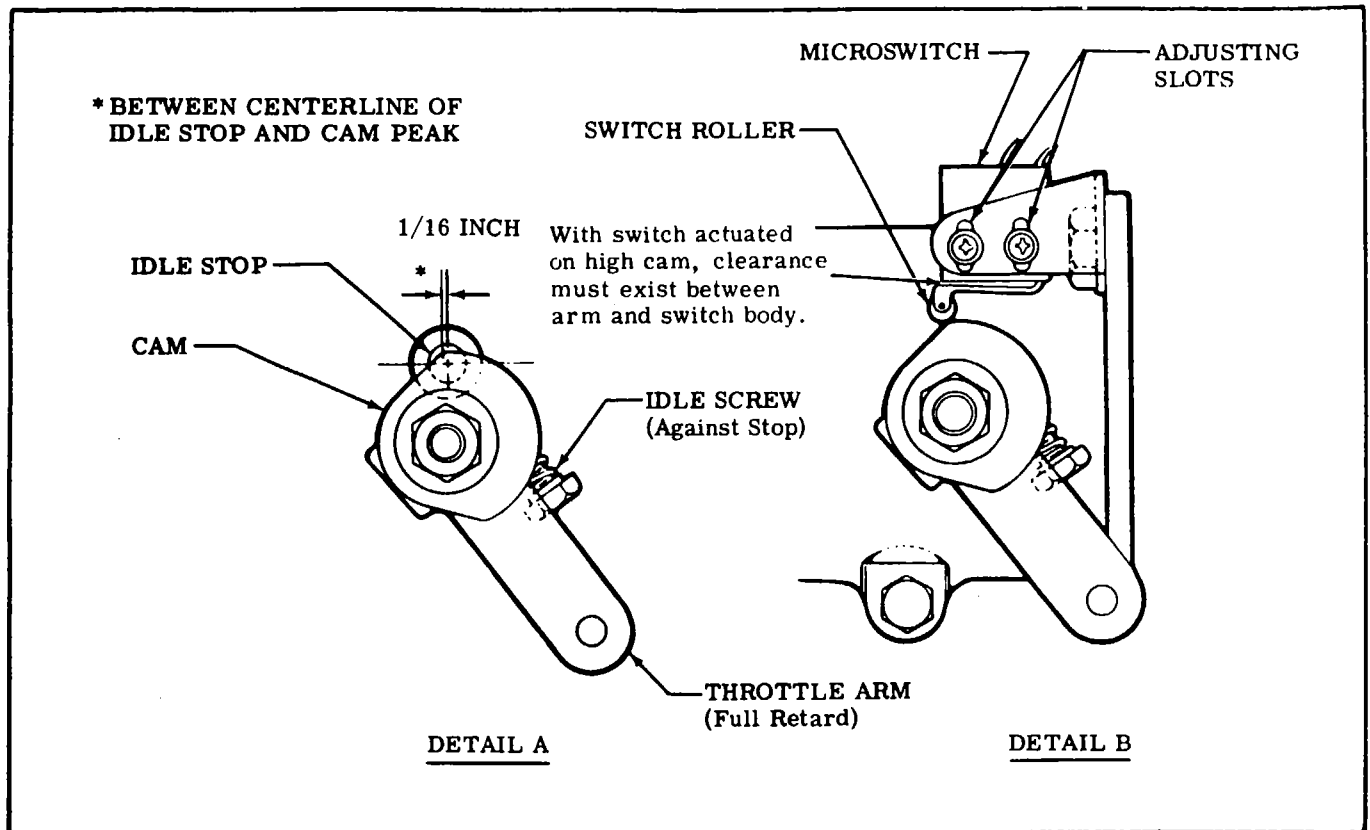

Figure 12-8. Rigging Throttle Operated Microswitch
12-31. RIGGING THROTTLE OPERATED MICROSWITCH. (See figure 12-8.) The aircraft electric auxiliary fuel pump circuit is equipped with a microswitch which operates on a cam attached to the throttle arm of the fuel-air control unit. The cam on the throttle arm actuates the microswitch as the throttle is retarded to a manifold pressure of approximately 16" Hg, thus reduces the speed of the auxiliary fuel pump by introducing a resistance into the circuit. Rig the microswitch as follows:
1. Close throttle and adjust cam as shown in detail "A" of figure 12-8.
2. Refer to detail "B" of figure 12-8 to set microswitch to actuate on the peak of the cam, and to de-actuate on the flat portion of the cam. Be sure that roller arm of switch actuator clears switch body in actuated position.